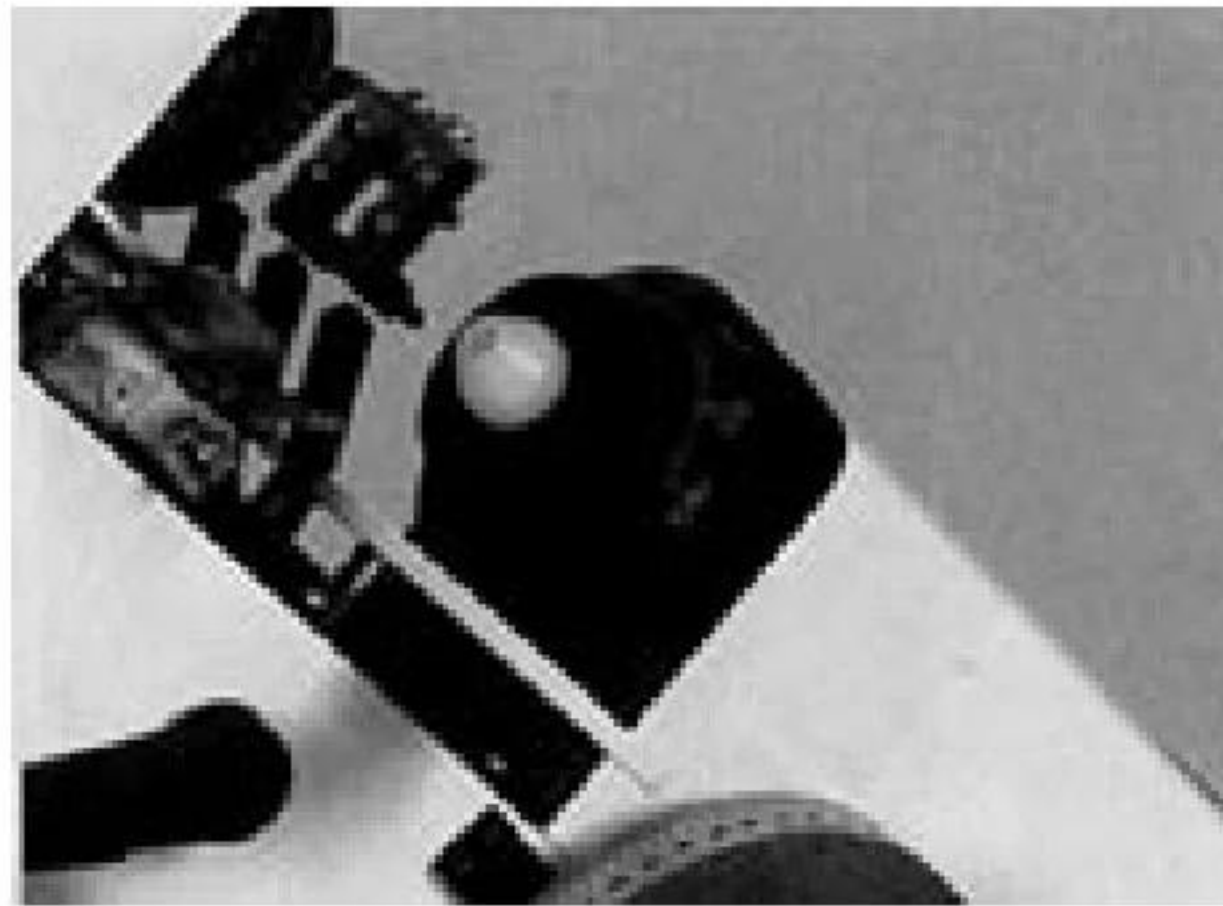

Fig. 10
3.8 Objective lens bearing seat (Fig. 10)